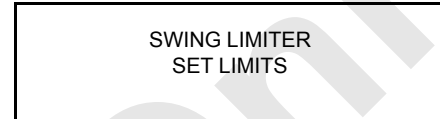

FIGURE 3-61
- d. Scroll up or down to SET LIMITS (Figure 3-61).